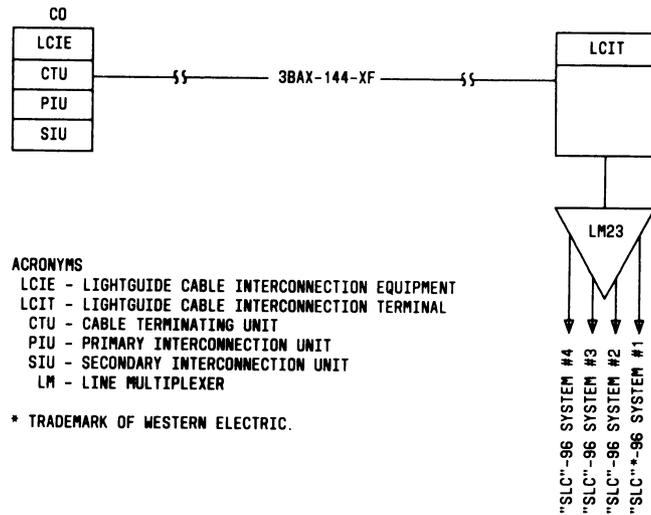

Fig. 7—Lightguide Cable and Equipment
**3.10** Lightguide cable, interfaces, terminating units, and the remote multiplexer are shown in Fig. 7 through 11.